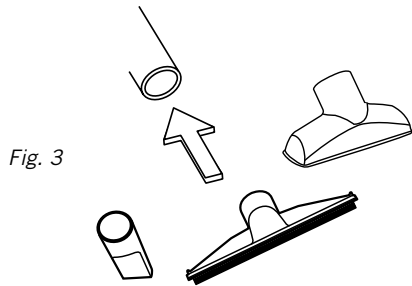

Fig. 3
- Choose the desired accessory 17 18 19 and/or extension wands 16 and insert onto the end of the hose 15. Fig. 3.